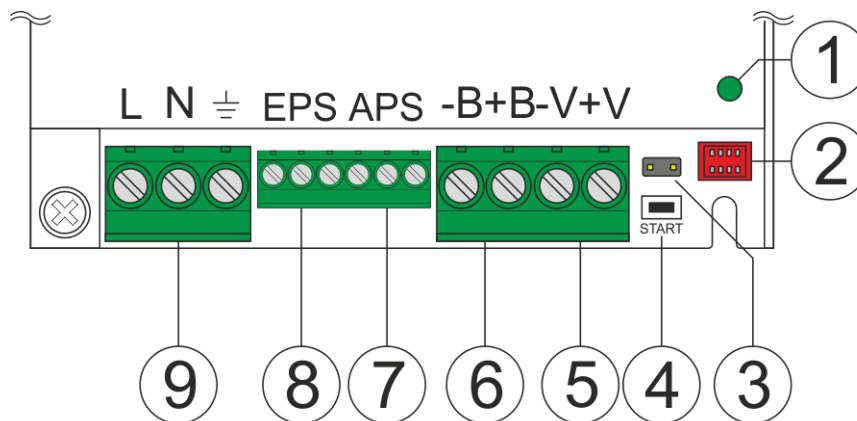

Fig. 2. View of power supply module
- **cutting off the 230 V current:** LED AC (Fig. 2 level 5), EPS technical output after time 30s